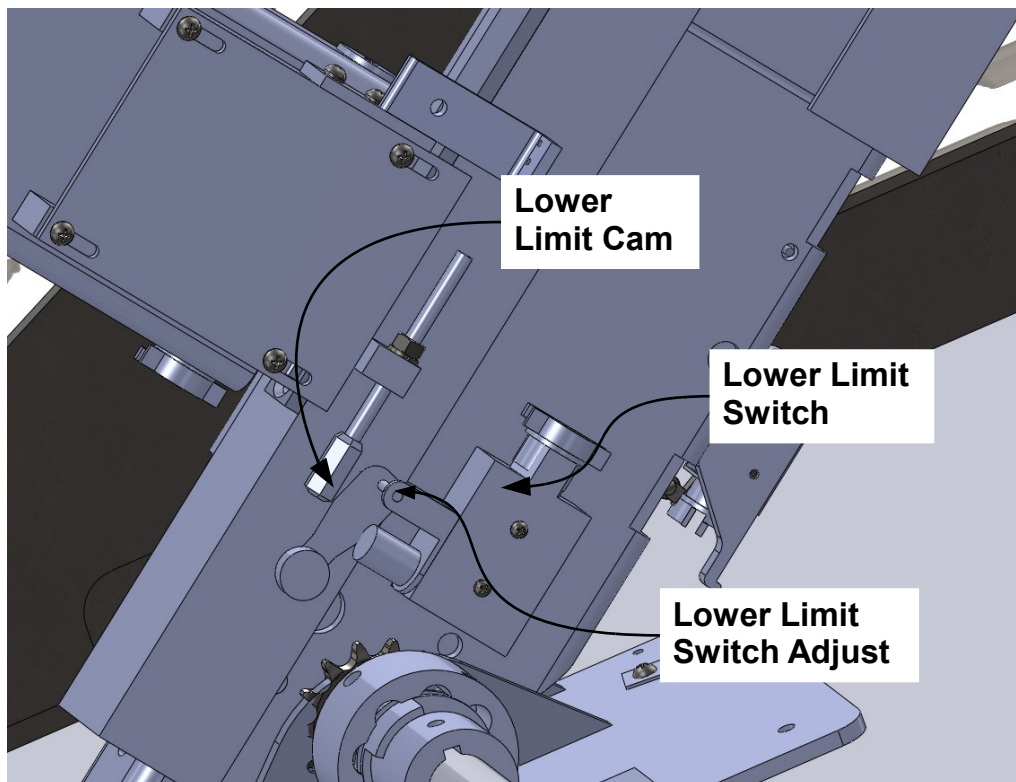

Figure 16: Lower Limit Switch and Cam
After the top position has been set, run the platform to the bottom and check the setting of the **lower limit switch**. The lower limit switch (Figure 16) is actuated by a limit switch cam attached to a threaded rod, mounted on the side of the platform at the bottom of the platform control tube. If the lower limit switch fails to actuate or is out of adjustment, the platform will then contact the floor and either the apron switch or the ratcheting safety clutch will prevent damage to the platform.
- Adjust the lower limit switch if the cam does not meet the cam – loosen the bolt (marked as “Lower Limit Switch Adjust” in Figure 16) and rotate the arm so it meets the cam. Tighten the bolt and verify operation.